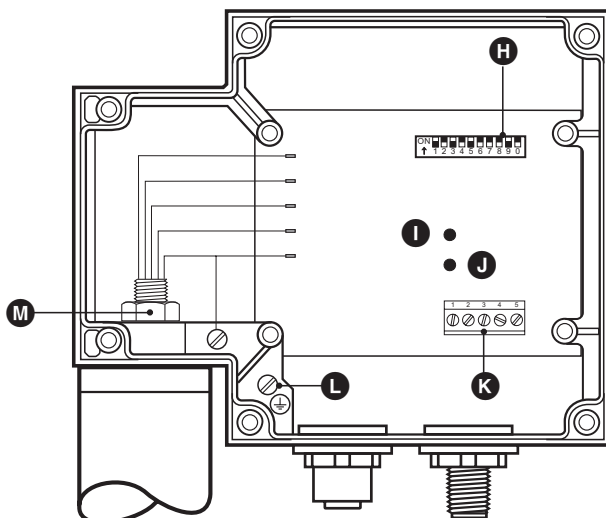

Fig. 6
2. Loosen screw  with 17 mm spanner but do not remove. **Fig. 6**